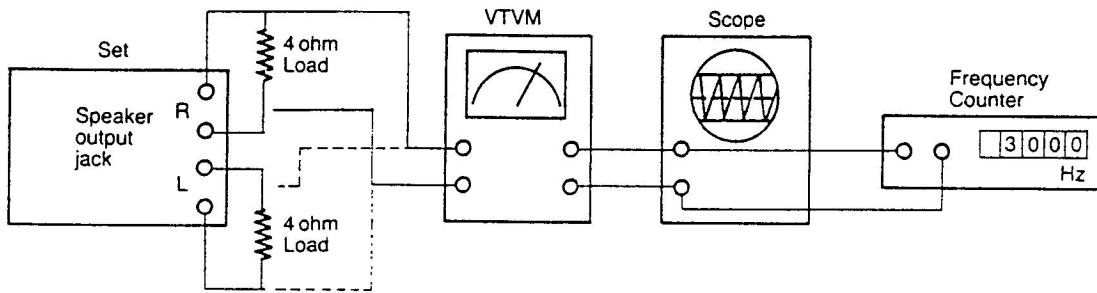

Figure 6
- Play a standard test tape recorded with 3 kHz signal (or 1 kHz). (Equipment connection: See Figure 6.)
- Play a standard test tape recorded with 8 kHz signal such as TEAC MTT-113CN. (See Fig. 6)